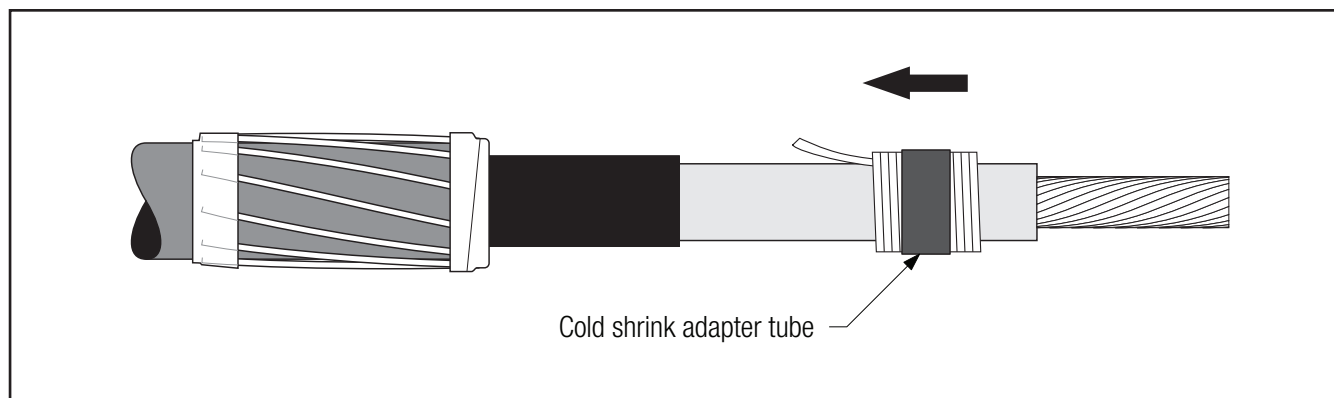

Figure 9
- 3.4 **For 4/0 AWG through 350 kcmil copper connectors, or connectors with an O.D. between 0.69-0.84" (17,5-21,3 mm):** Park cold shrink adapter tube on cable insulation (Figure 9).